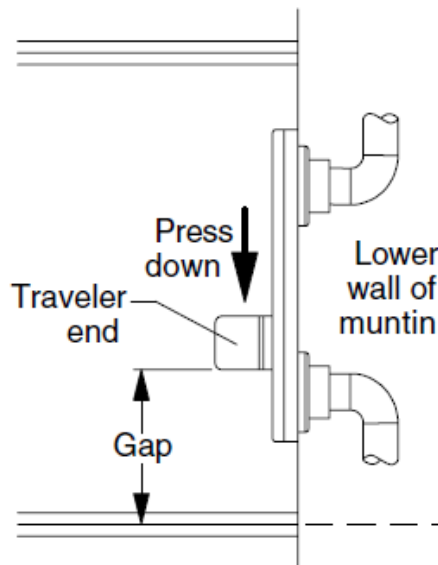
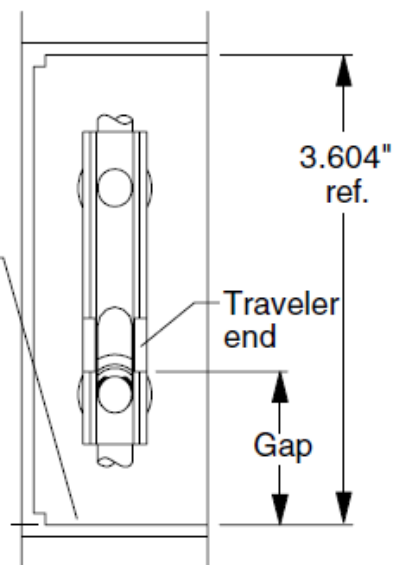

Figure 4-1
Figure 4-2
4.1. With top rod retracted (see Step 3), press down on traveler end as shown (Figure 4-1). Make sure traveler is held over rod ends and against rod bushings.
4.2. Measure the gap between the bottom of the traveler end and the lower wall of the muntin (Figure 4-1 and Figure 4-2). Adjust top rod per directions in table below.